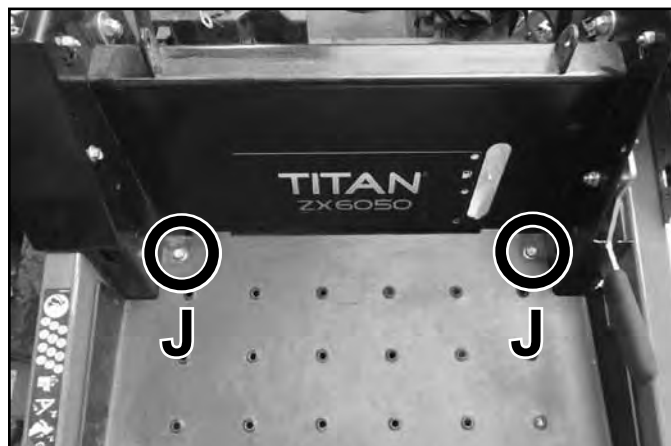

Fig. 026
3. Install the (2) bolts/nuts (J) that secure the front motion control bolt to the frame and torque to specification - 17 ft-lbs. (23 Nm) (Fig. 026).